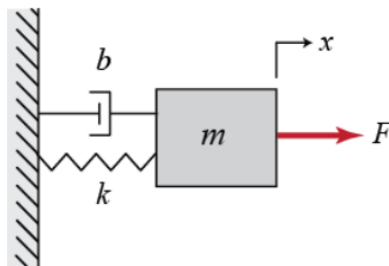

Figure 1: Spring mass damper system
1. Consider the following spring-mass-damper system (Fig 1) with parameters $m = 1\text{kg}$, Spring constant, $k=1\text{N/m}$. The damping coefficient b is a variable parameter. F is the external applied force and x the displacement.
Obtain the unit step response of the mechanical system in Fig.1, by choosing damping coefficient b such that the system is underdamped. Compute the time domain parameters manually and in the MATLAB editor. Tabulate the results in Table 2 and 3 respectively.